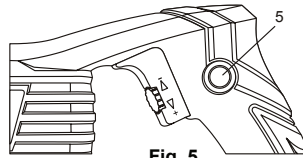

Fig. 5
Your reciprocating saw is equipped with a lock-on feature, which is convenient when continuous cutting for extended periods of time is required (Fig. 5). To lock the switch ON, depress the trigger switch, push in and hold the lock-on button (5) located at the left side of the handle, then release the trigger. Release the lock-on button and your reciprocating saw will continue running. To turn the reciprocating saw OFF, depress and release the trigger switch to release lock.